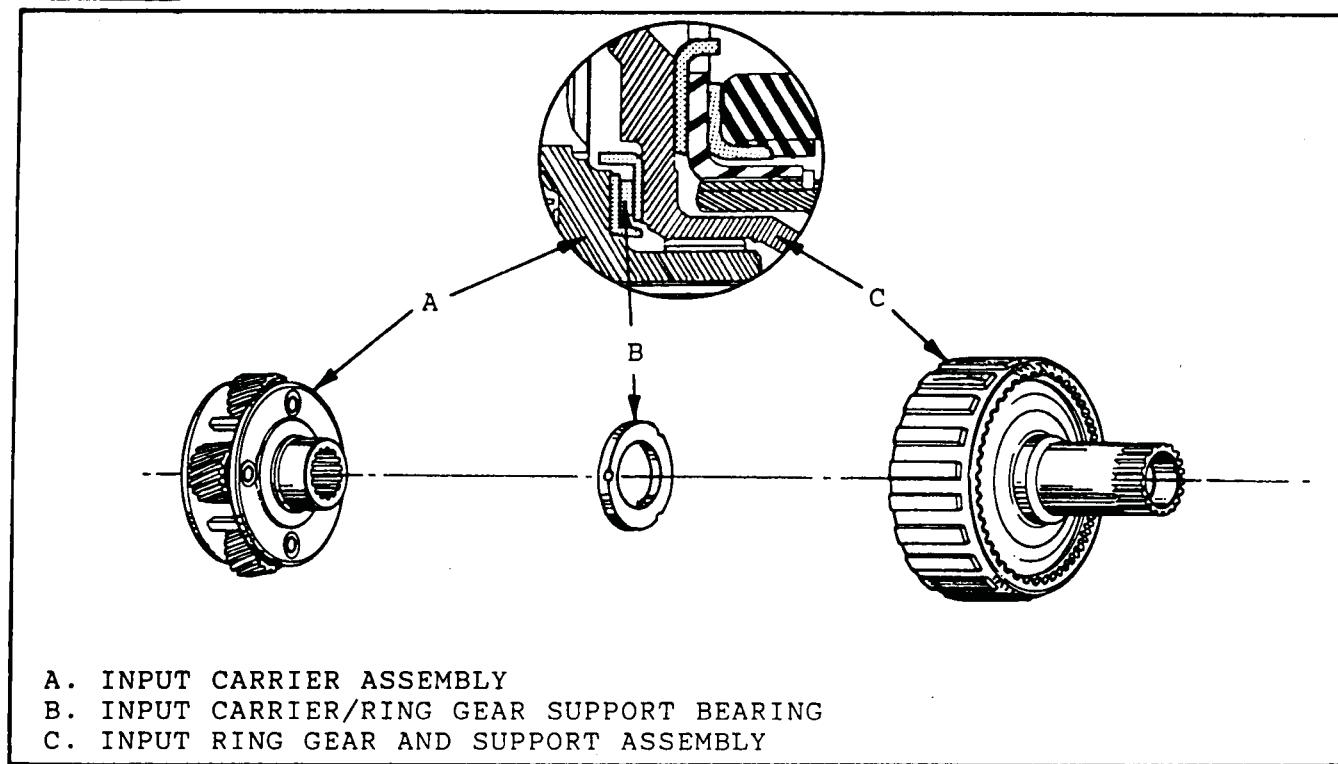

Figure 94
- Input carrier to ring gear thrust bearing for wear or damage (Figure 94).
- 2. Install thrust bearing into input ring gear and retain with Trans-Jel (See Figure 94 for bearing direction).